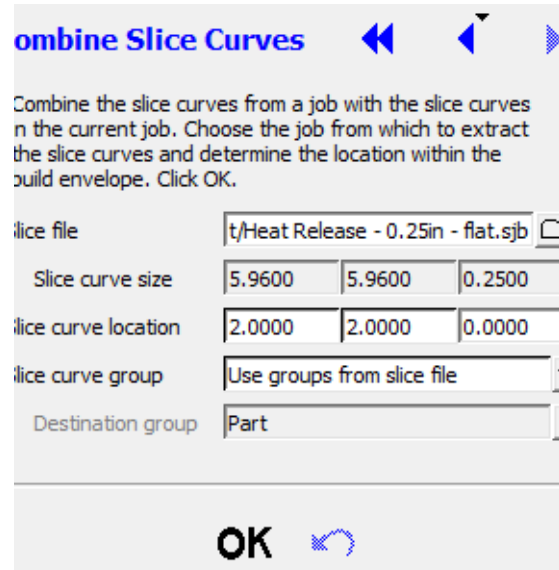
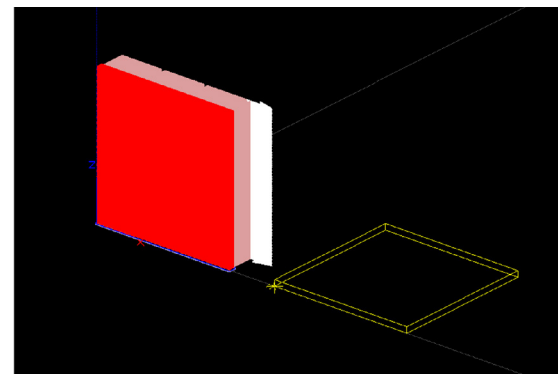
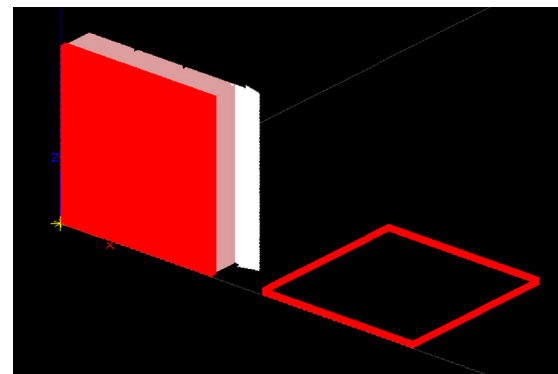

Figure 2. Menu on the right side of the screen.
Figure 3. Yellow box showing the location of the new part relative to the pre-loaded file.
Figure 4. Combined slice file.
3. Select the slice file to be added (slice curve size auto populates) and the desired part offset in the box from the menu on the right side of the screen (Figure 2). When you enter the numbers for the offset a yellow box the size of the new part appears, showing the exact location of the new part (Figure 3). Select OK when the part is in the right location and the slice files will combine (Figure 4).